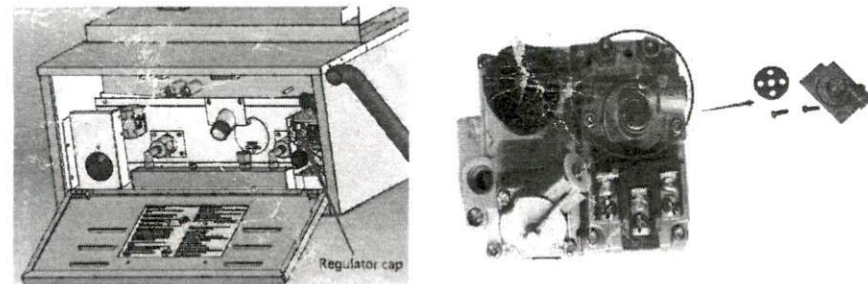

Fig. 5
- Convert the gas valve regulator of the main control valve (See Fig. 5).